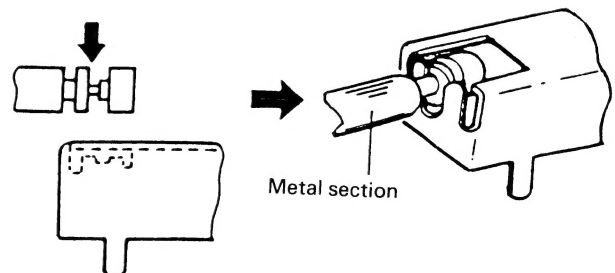

Fig. 2
3. When connecting a remote switch, insert it from above as shown in Fig. 2. In this case, press it in sufficiently in order to prevent it from floating during operation.